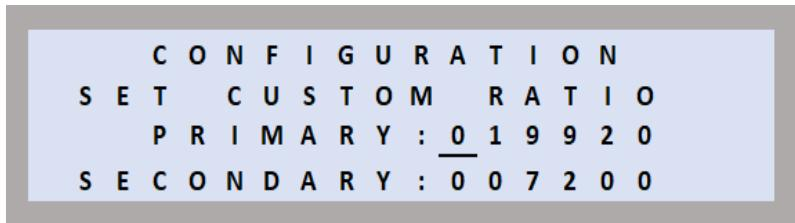

Figure 69
- The Custom option will allow you to set a custom ratio. From the Nameplate Select screen (see Figure 69) press  to select the **Custom** option.
- **Setting Primary and Secondary custom ratio values:** The cursor will blink beneath the first Primary digit (see Figure 69). Use  and  to edit digit. Then use  or  to cycle through fields and set values for remaining Primary and Secondary digit fields.